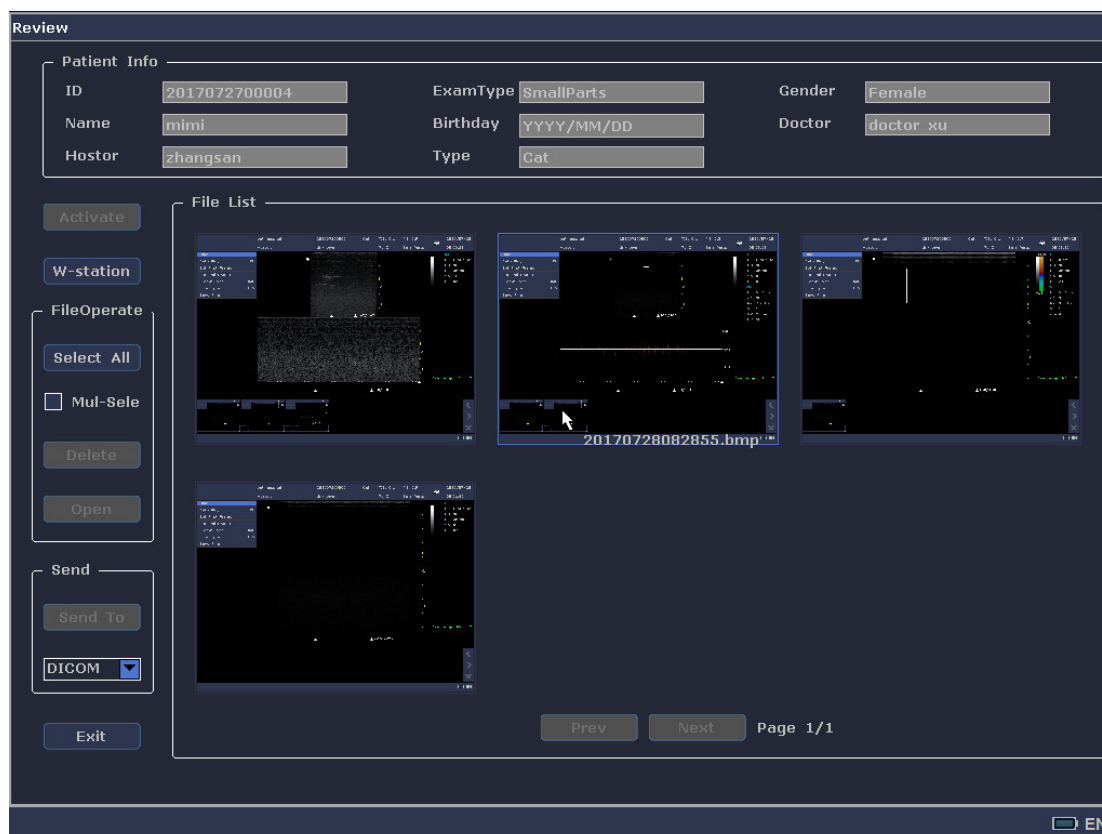

Figure 10-1 Review Screen
1. Press the **Review** key on the control panel to enter the Review screen, as shown in Figure10-1. The thumbnail images display in the [File List].